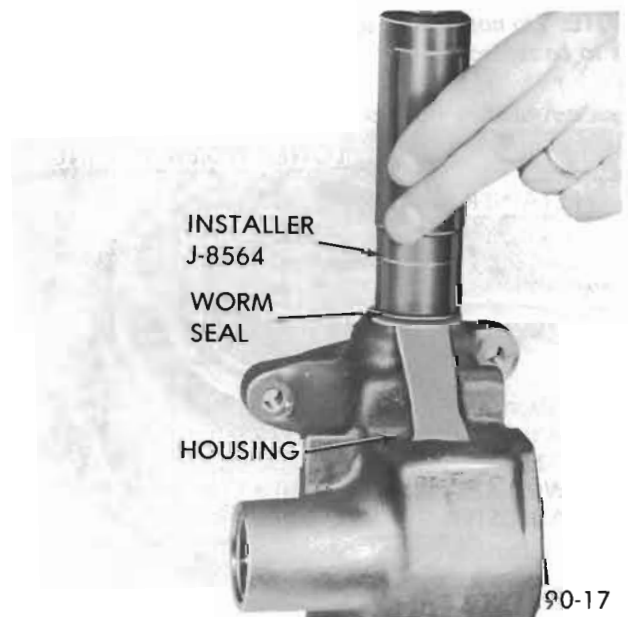

Figure 90-11 Installing Worm Shaft Seal
9. Install new worm shaft seal using Installer J-8564. Drive seal flush with surface of housing. See Figure 90-11.